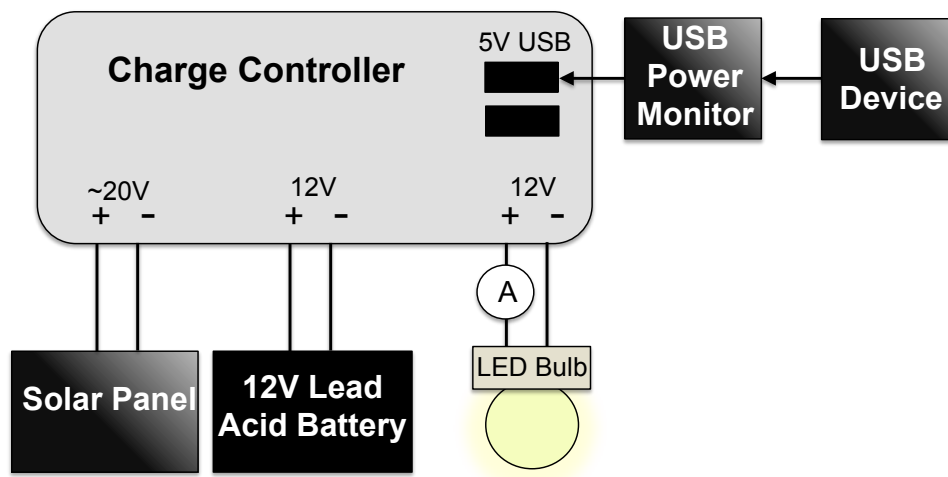

Figure 1: A schematic of the Solar Microgrid.
This week, you will create your own “Solar Microgrid”. The microgrid consists of the solar panel, a 12V lead acid battery, and a charge controller, as shown below in Figure 1. Solar panels obviously do not produce energy at night, so the 12V battery is used to store energy produced during the day. Directly connecting ~20V DC output of the solar panel to charge the 12V battery would damage it, so the charge controller is used to step down the 20V DC to 12V DC. Additionally, the charge controller contains two 5V USB outputs for charging and powering various consumer electronics.
1. Sketch the schematic shown in Figure 1 in your lab notebook.
- b) Locate the handheld DMM with mini-grabber cables in the 10A socket. Connect the other end of the DMM cables to the wire in the charge controller and the other DMM cable to the red light bulb wire, such that the DMM **in series** with the LED bulb, as shown in Figure 1. Switch the DMM knob to the 10A current setting.